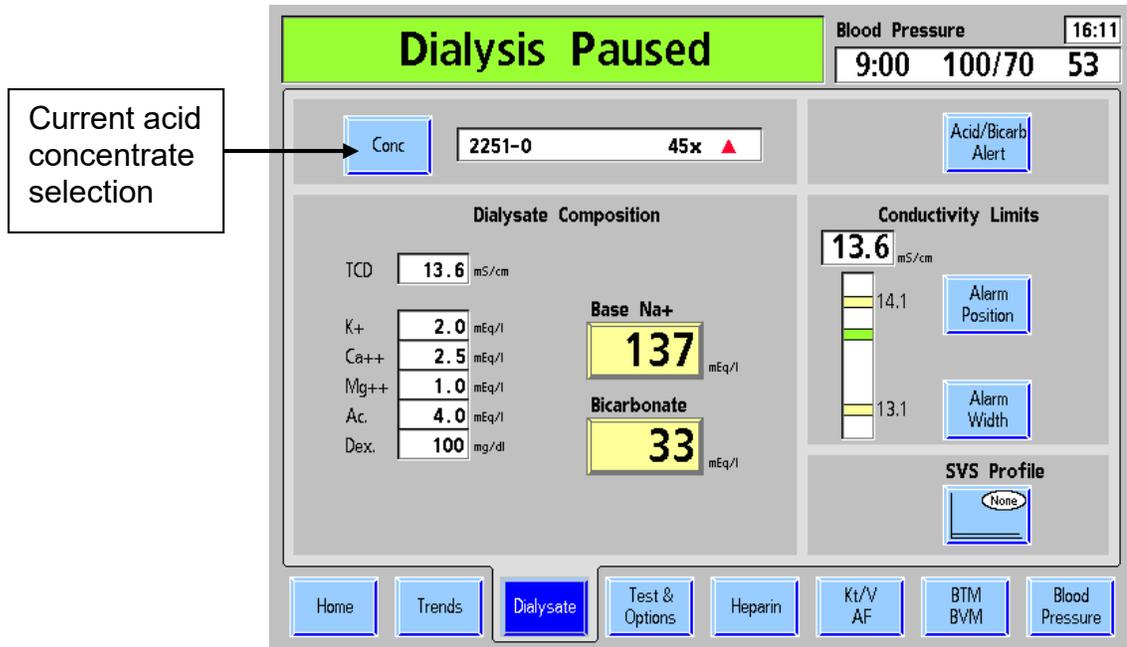

Figure 20 – The Dialysate Screen
3. If the machine is being prepared for normal dialysis, touch the **Dialysis** button on the touch screen. The Dialysate screen will appear on the monitor (see Figure 20).